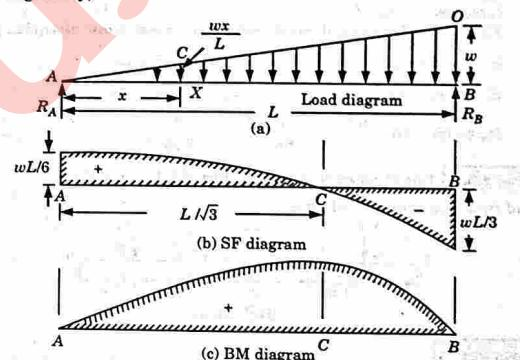

Fig. 2.7.1
- Fig. 2.7.1 shows a beam AB of length L simply supported at the ends A and B and carrying a uniformly varying load from zero at end A to w per unit length at B. First calculate the reactions R_A and R_B .